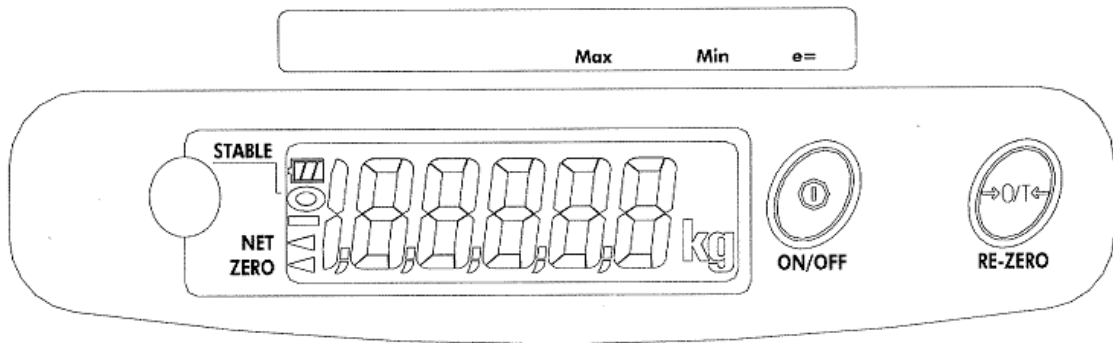

Figure 2 Display
6.1.1 The instrument bears the following legends (see Figure 2):
- Figure 2 Display